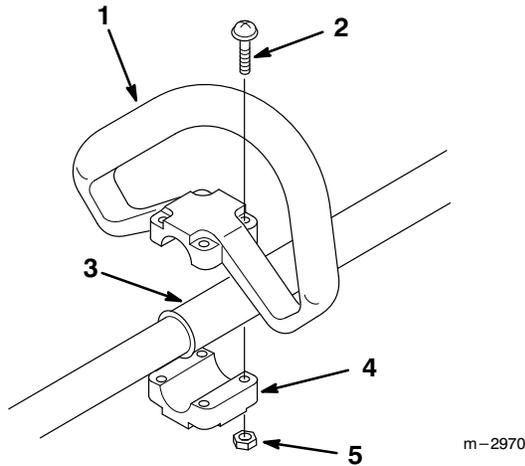

Figure 5
The loop handle kit contains a package of four screws and nuts, a rubber sleeve and the bottom clamp for the loop handle (Fig. 5).
1. Slip the rubber sleeve around the shaft approximately 9 inches (22.8 cm) from the end of the stop switch/throttle trigger assembly for an initial handle position (Fig. 5).
2. Rotate the rubber sleeve so the split is to one side (Fig. 5).
3. Place the loop handle and the bottom clamp over the rubber sleeve (Fig. 5).
4. Install the four screws and nuts. Leave the screws finger-tight (Fig. 5).
5. Reposition the loop handle up or down the drive shaft to the most comfortable position, but no closer than 9 inches (22.8 cm) from the end of the stop switch (Figs. 5 and 6).
6. Tighten the screws and nuts (Fig. 5).